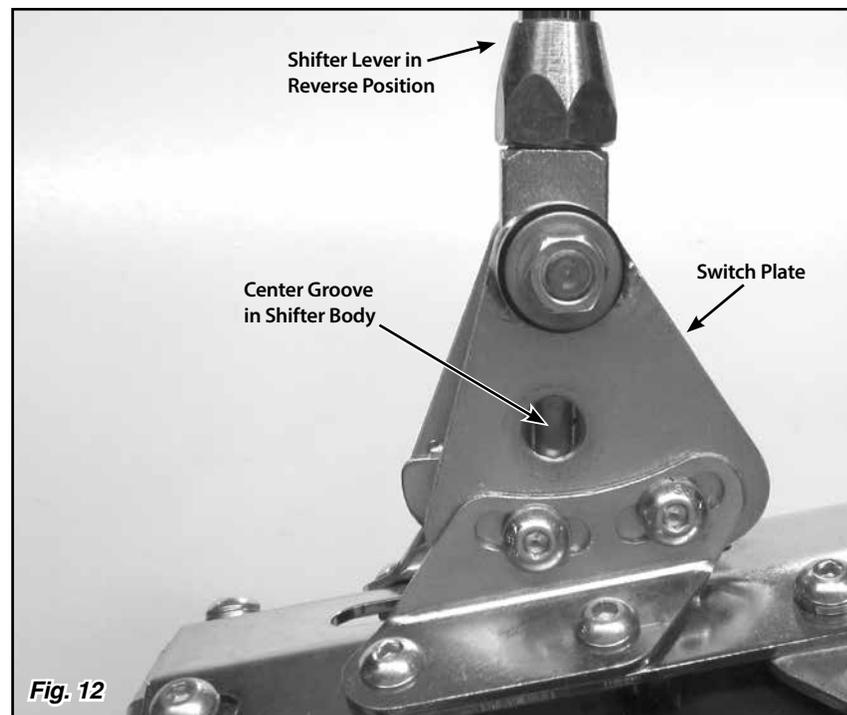
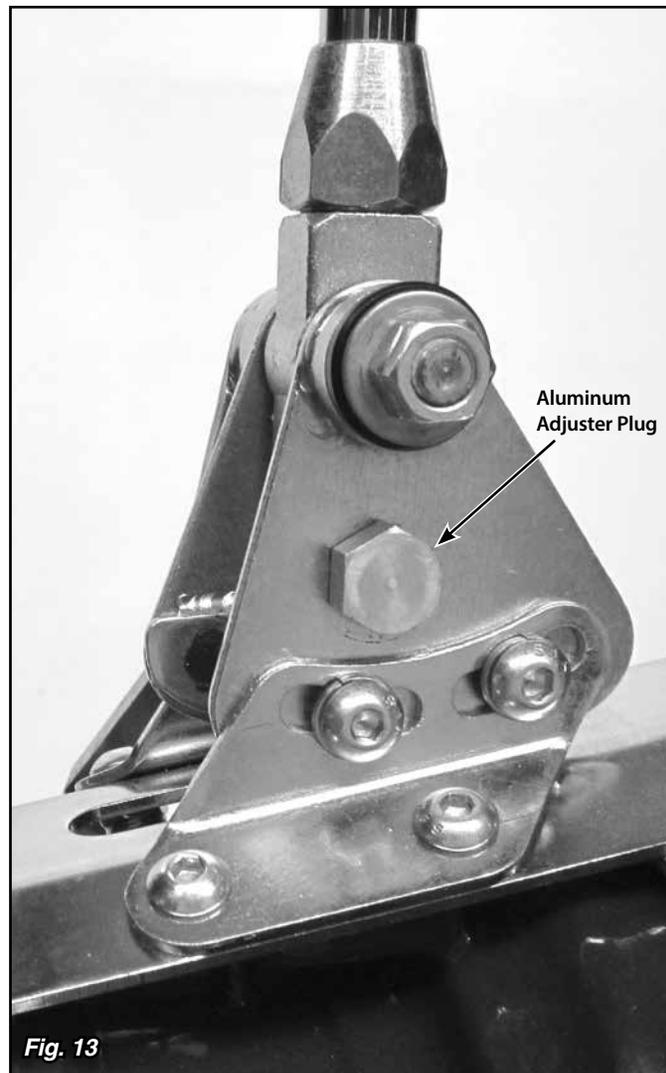

Fig. 12
Fig. 13
**Step 19:** Put the shifter lever into the Reverse position. Reposition the switch plate so that the hole in the switch plate lines up with the center groove in the shifter body. **Fig. 12** Screw the provided aluminum adjuster plug into the neutral safety switch opening. Wiggling the switch plate slightly forward and back while you are screwing the aluminum adjuster plug in will help get the shifter body centered on the adjuster plug. **Fig. 13**
- **If there are (2) connections for a neutral safety switch**, run a #12 (or heavier) stranded wire from these terminals in your fuse panel to the (2) terminals on the neutral safety switch. That completes the Neutral Safety Switch wiring.